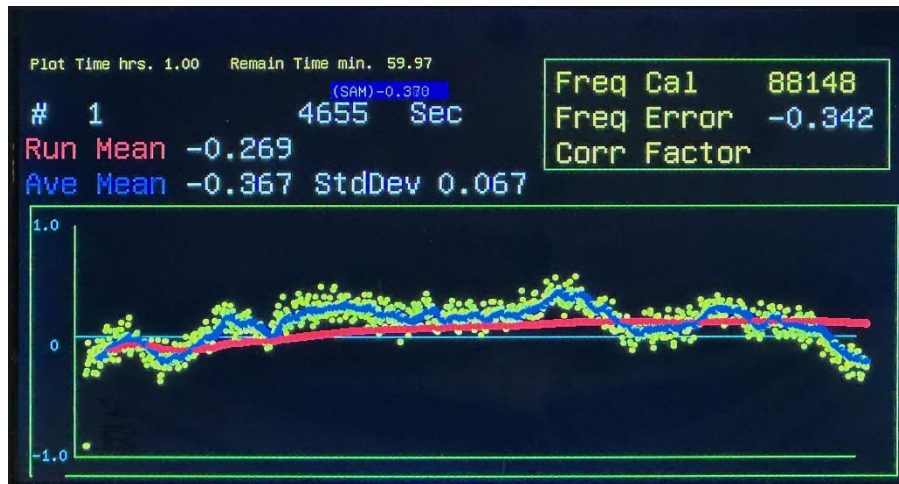

Figure 5 Crystal Frequency Error
- Using a TXCO makes a large difference in the frequency stability over time, as shown in Figure 4. In this case the error is plotted for a 25 MHz crystal instead of the TXCO. Compare Figure 5 to Figure 3. The TXCO average mean over 8 hours was 0.034 Hz, compared to the crystal average mean of 0.367 over just 1.3 hours. Average Mean is computed using all of the samples, while the Running Mean is calculated using a running average over 20 samples.